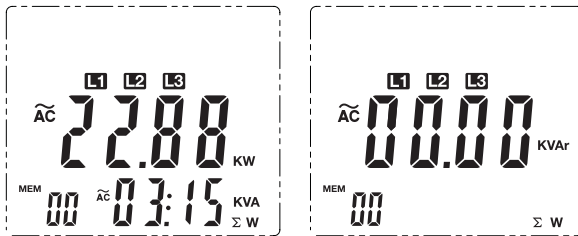

Figure 9
12. After recording the kW power measurement value for the third phase, press and Hold the Σ **button** for 1 second to display the 3 phase sum of **kW** on the main display and **kVA** on the secondary display. (figure 9)
9. After recording the kW power measurement value for the L3 phase, press and Hold the Σ button for 1 second to display the 3 phase sum of **kW** on the main display and **kVA** on the secondary display. (figure 9)
For Figure 9: for 3-wire $\Sigma W = W1 + W3$